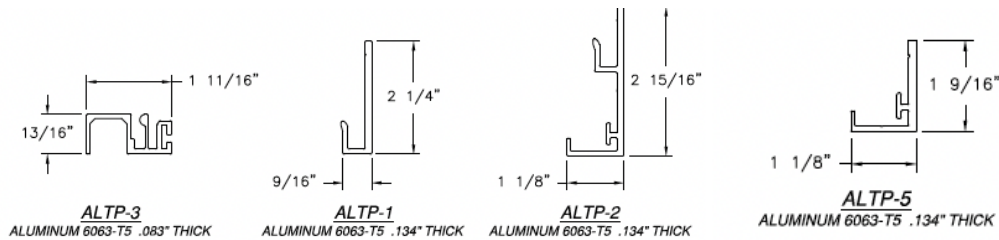

Figure 3- Wall Clip Details
7. **WALL CLIPS:** The 2 in. x 3 in. 6063 T5 aluminum wall clips (Figure 3) are installed progressively as the ACM panels are installed. The wall clips are attached to the Z-girts using two #12 x 1-1/4 in. self-drilling fasteners per clip. Wall clips may use optional shims to level the exterior surface. The clips are provided by the ACM system Fabricator.